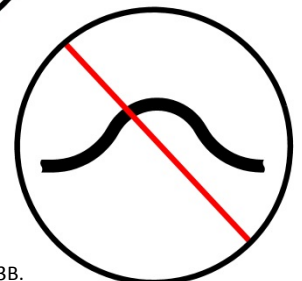

Figure 3B.
4. Jacket Heater Inlet: Connect hose from the inlet of the jacket heater to where the coolant will be pulled out of the engine. There must be no high spots in the routing of the hose. See figure 3B.